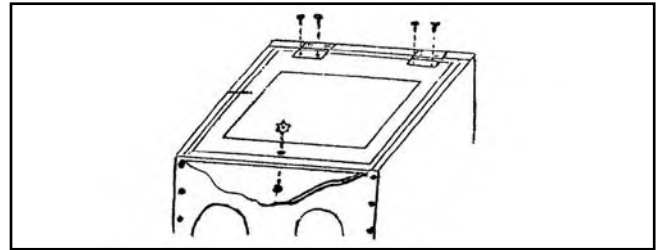

Figure 5. Hinge and knob assembly.
5. Install window, hinges, lock latches, and the knob (**Figure 5**).